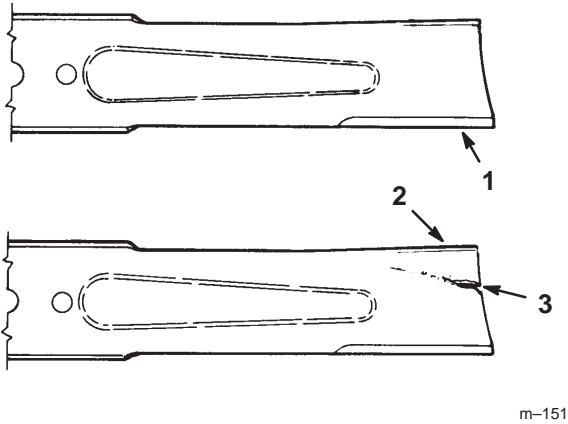

Figure 44
1. Inspect the cutting edges (Fig 44). If the edges are not sharp or have nicks, remove and sharpen the blades. Refer to Sharpening the Blades on page 35.
- Inspect the blades, especially the curved area (Fig. 44). If you notice any damage, wear, or a slot forming in this area (item 3 in Fig. 44), immediately install a new blade.